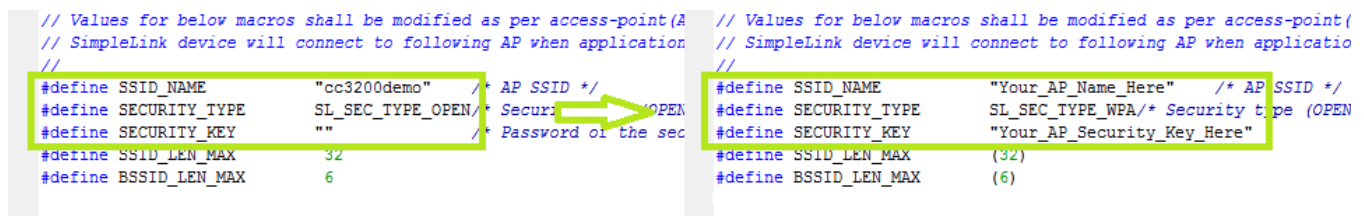

Figure 9. Editing common.h
10. Edit common.h to use the SSID, security type, and security key of the AP. Edit the macros SSID_NAME, SECURITY_TYPE, and SECURITY_KEY to contain the AP information as shown in Figure 9. The security types supported for this demo are WPA/WPA2 and Open. For Open security, define SECURITY_TYPE as SL_SEC_TYPE_OPEN. For WPA and WPA2 security, define it as SL_SEC_TYPE_WPA. Alternatively, the SSID and security of the AP can be changed to match the default (SSID: cc3200demo, Security: Open). For the SSID_NAME and SECURITY_KEY, the quotation marks must remain as part of the macro definition.